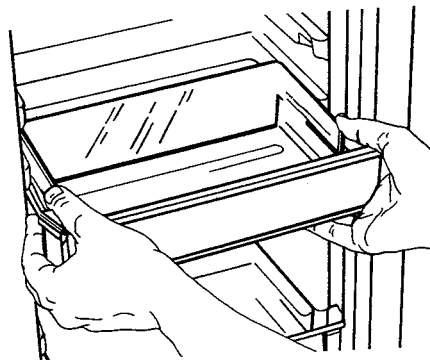

Figure 17.
c. Pull bucket straight out. See Figure 17.